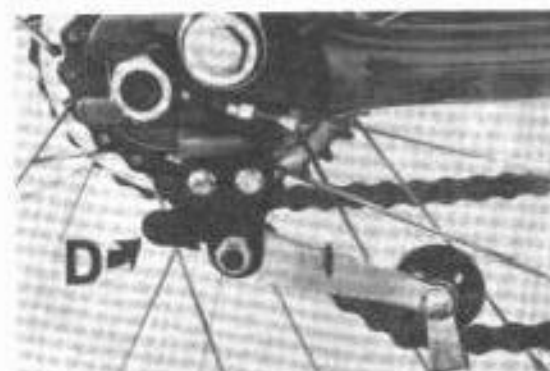

Fig. 26-2
- 1) The pedalling chain on these models has a spring loaded tensioner and chain tension is constantly maintained. The tensioner can be lifted and locked in the "UP" position and released by pressing the catch "D" Fig. 26-2 inwards.